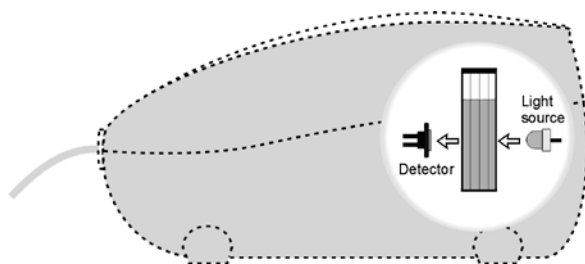

Figure 1
The primary objective of this Preliminary Activity is to determine the concentration of an unknown copper (II) sulfate solution. You will use a Colorimeter (a side view is shown in Figure 1). In this device, red light from the LED light source will pass through the solution and strike a photocell. The CuSO_4 solution used in this experiment is blue. A higher concentration of the colored solution absorbs more light (and transmits less) than a solution of lower concentration. The Colorimeter monitors the light received by the photocell as percent transmittance.